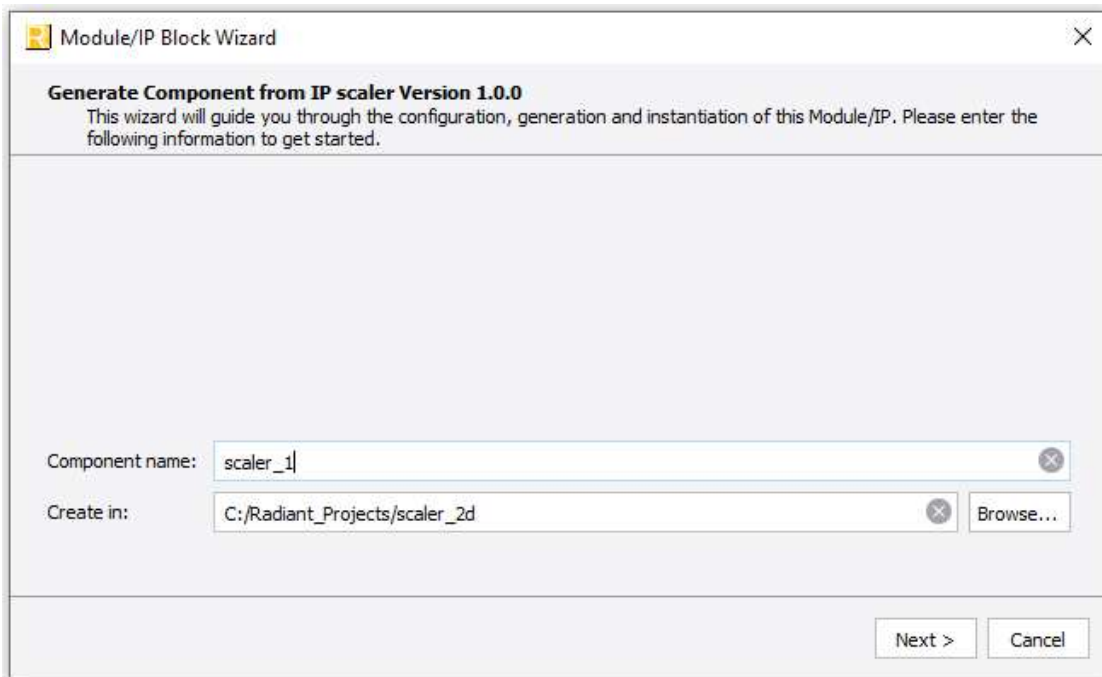

Figure 3.1. Module/IP Block Wizard
2. In the **IP Catalog** tab, double-click **Scaler** under the **IP, DSP** category. The **Module/IP Block Wizard** opens as shown in Figure 3.1. Enter values in the **Component name** and the **Create in** fields and click **Next**.
- Click the **Finish** button. All the generated files are placed under the directory paths in the **Create in** and the **Component name** fields shown in Figure 3.1.